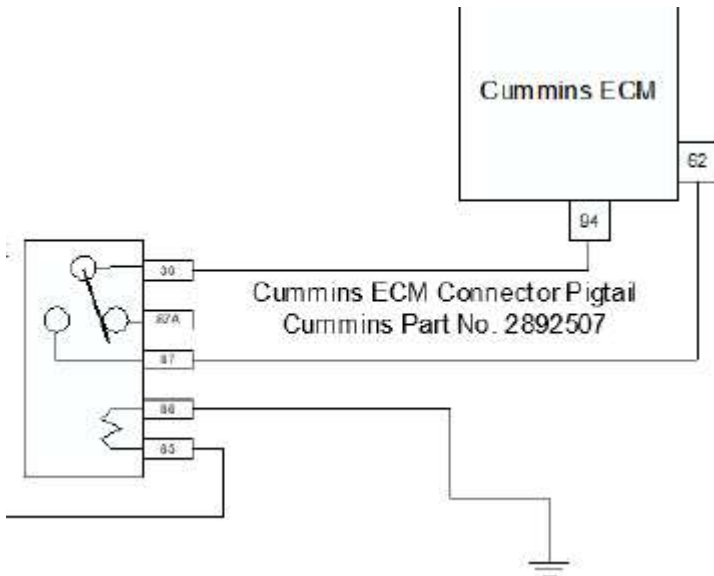

Figure 7 Cummins PTO Relay
- On the free end of these wires from the J2 Connector Cavities 62 and 94 will be inserted into the Cummins PTO Relay terminals 30 and 87 reference figure 7.